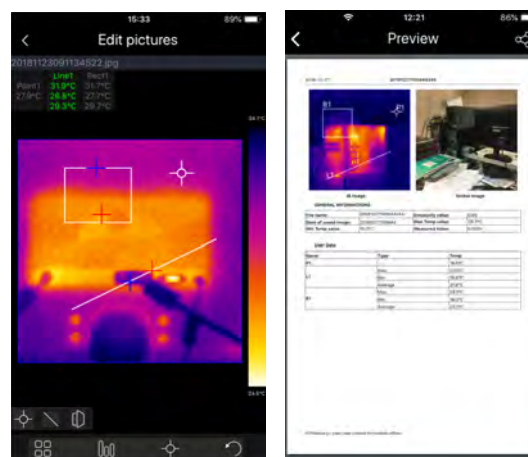

Fig. 21: Applications of the APP HTMercury
1. Press key **ESC**/ to activate Manual mode. The temperature values stay fixed within a frame with grey background and symbol appears on the display (see Fig.21 – left side).
2. Press key **▲** to set the higher temperature value. The following screen (see Fig.21 – middle) appears on the display.
4. Select virtual key **←** to delete the value, press key **T** to define each value and select the virtual key **“Enter”** to confirm the value (e.g.: 35.0°C in Fig. 21 – middle) and quit setting section.
6. The display of the object in Manual mode is shown in Fig. 21 – right side.